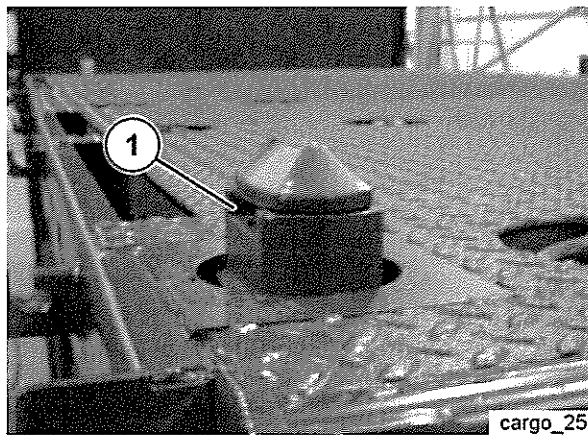

Fig 5 Stowing the ISO twistlocks
- 7 Refer to Fig 5. To stow the ISO twistlocks, proceeds as follows:
- 7.1 Lift the guide block (1) and turn through 90° and rotate the locknut clockwise.